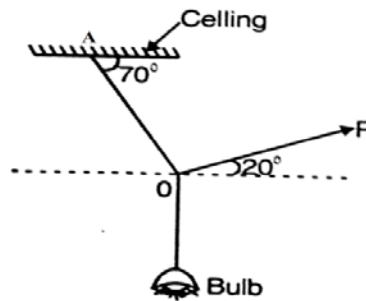

Fig. No.6
- e) Calculate magnitude of force P and tension in the wire OA, if an electric bulb of weight 10 N hangs vertically from a ceiling as shown in the fig. no. 6.